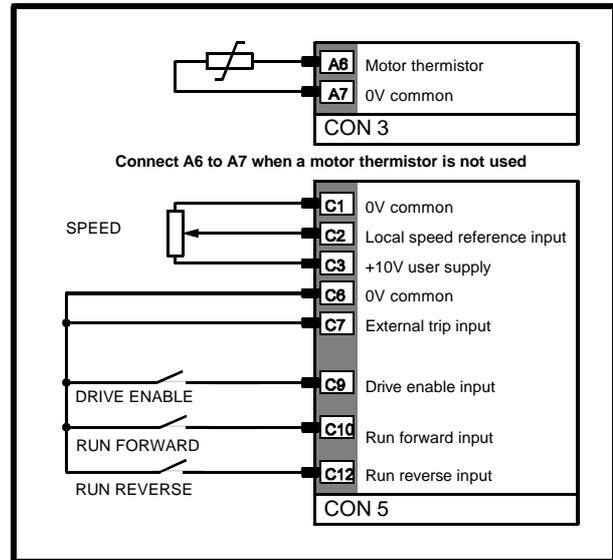

Figure 6-1 Basic connections for Terminal mode
2. Make the signal connections shown in Figure 6-1.